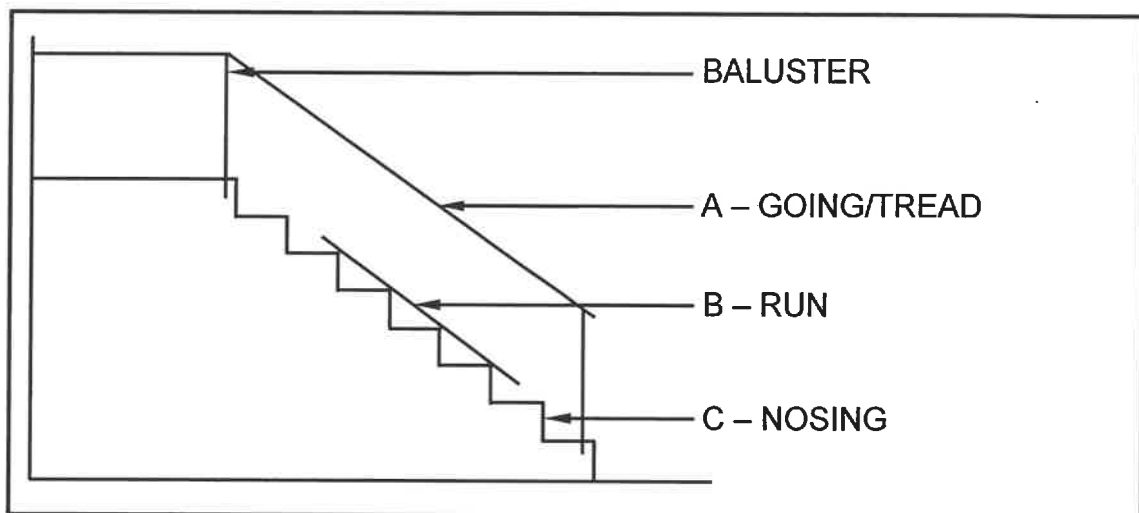

FIGURE 3.2
3.2 FIGURE 3.2 below shows a staircase with some incorrect labels.